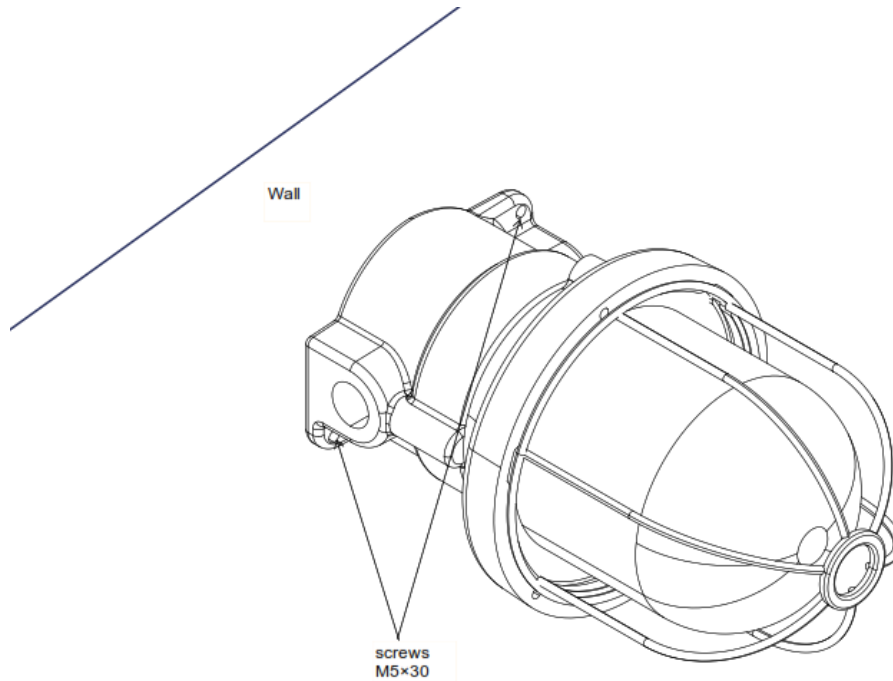

Figure 4: Mounting Directly to Wall
- Align the Flasher body to Wall According to Figure 4